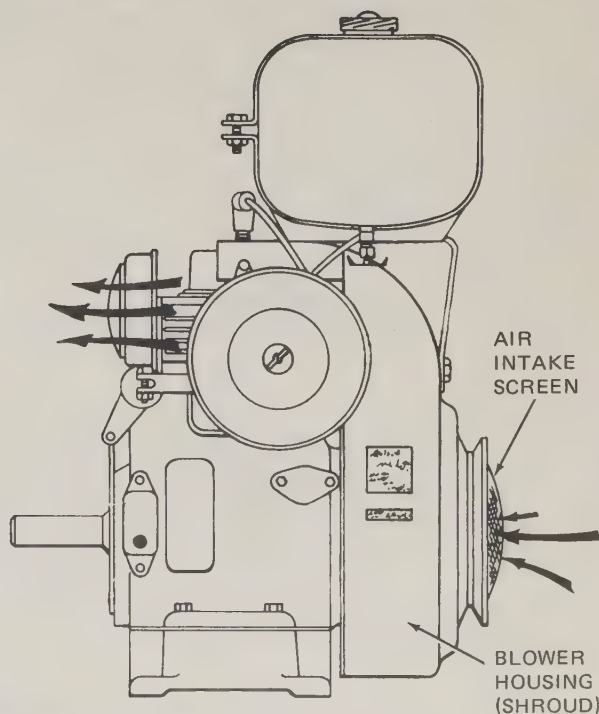

FIG. 30-7 The blower housing must be removed and cleaned periodically. (Kohler Company)
**Cleaning the Shroud** Many small engines have fans and shrouds to direct the flow of air around the engine cylinder, as shown in Fig. 30-7. The blower housing, or shroud, will have to be removed before the engine can be thoroughly cleaned. Shrouds are held in place by screws which can be taken out to allow the shroud parts to be lifted off.